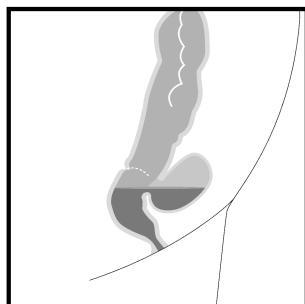

Fig. 1
3. Measure the leak cavity (length and diameter) visually using the endoscope in order to determine the length and diameter of the sponge. The size of the sponge should be chosen so that the sponge lies only within the leak cavity, but does not touch intact mucosa. After measurement, the endoscope is removed (Fig. 1).